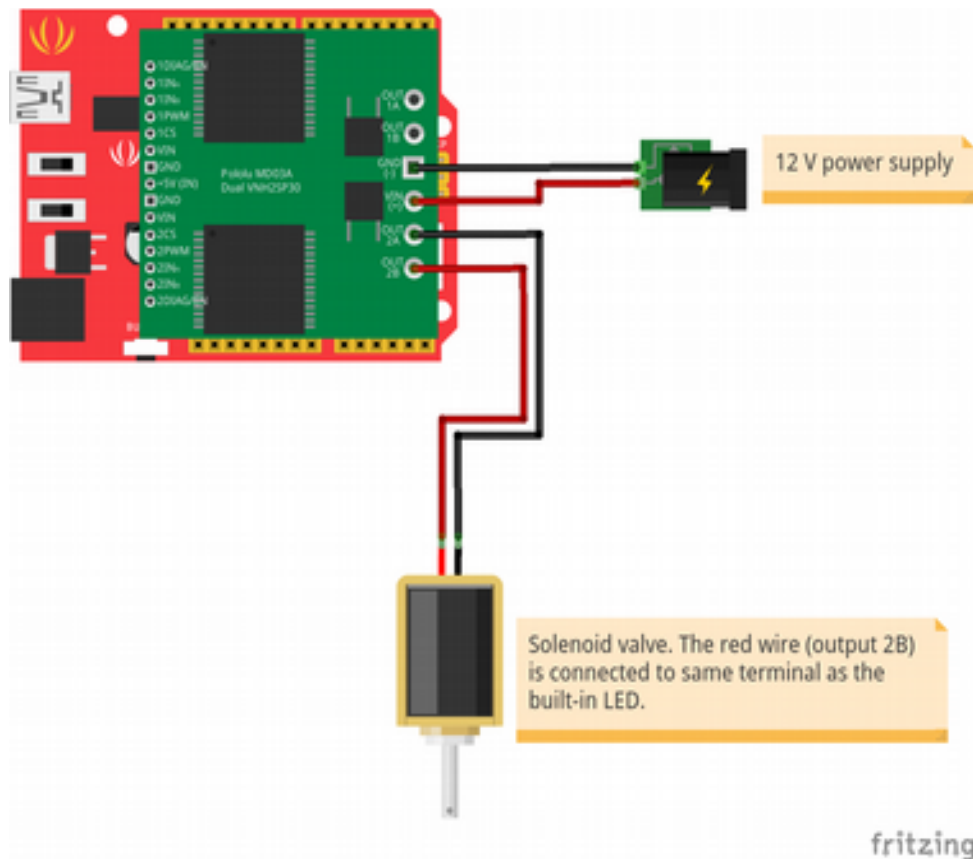
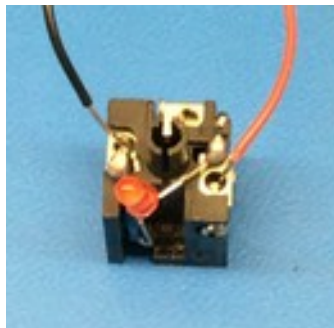

Figure 2: Connections between: power supply, Arduino and solenoid valve.
Figure 3: Solenoid terminals. Note how the red wire (output 2B on the shield) is connected to the terminal where the LED is connected.
2. The electronic connections schematic is given in Figure 2. In order to access the solenoid terminals, you will have to remove the transparent plastic cap. Note how the red wire (output 2B on the shield) is connected to the terminal where the LED is also connected (Figure 3).